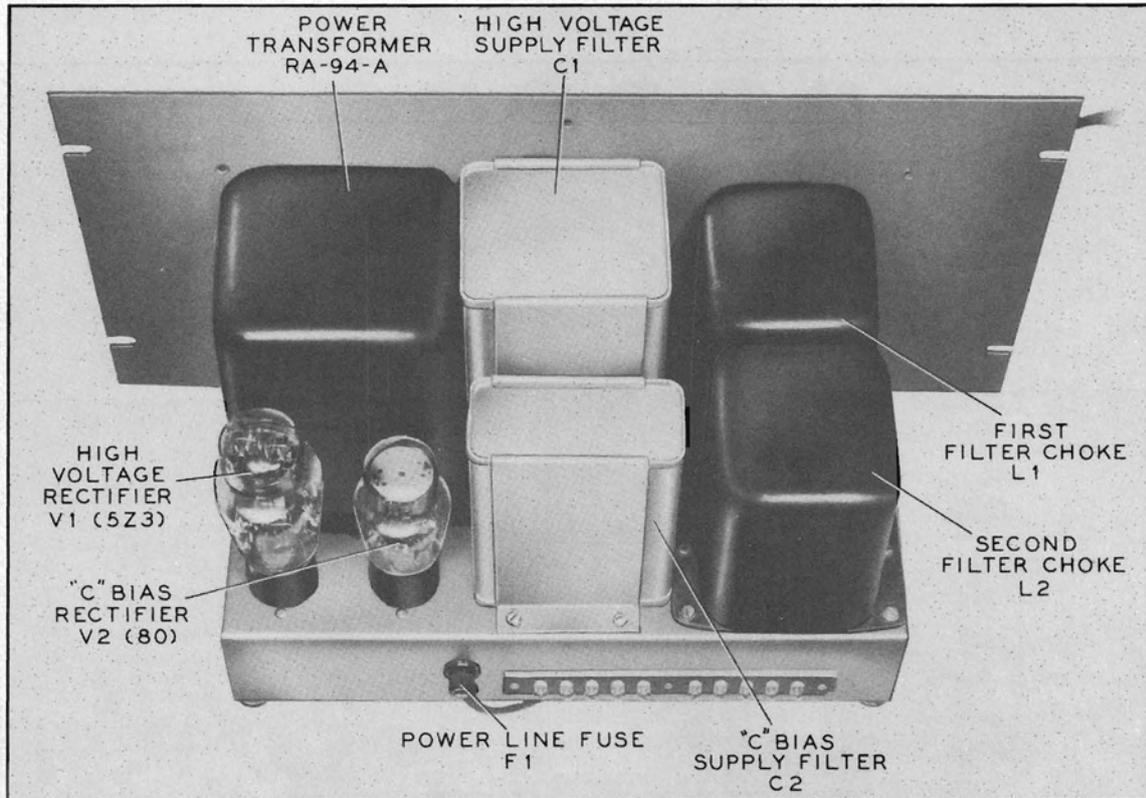

Figure 8. Power-Supply Unit, Top View of Chassis, Showing Major Components
All of the receiver circuits are located in the receiver unit. Figure 7 shows the top view of the receiver. The power-supply unit contains all of the rectifier and power-supply components, figure 8 shows the top view of the power-supply unit.
11. Location and function of each major component on the top of the power-supply unit (refer to figure 8).